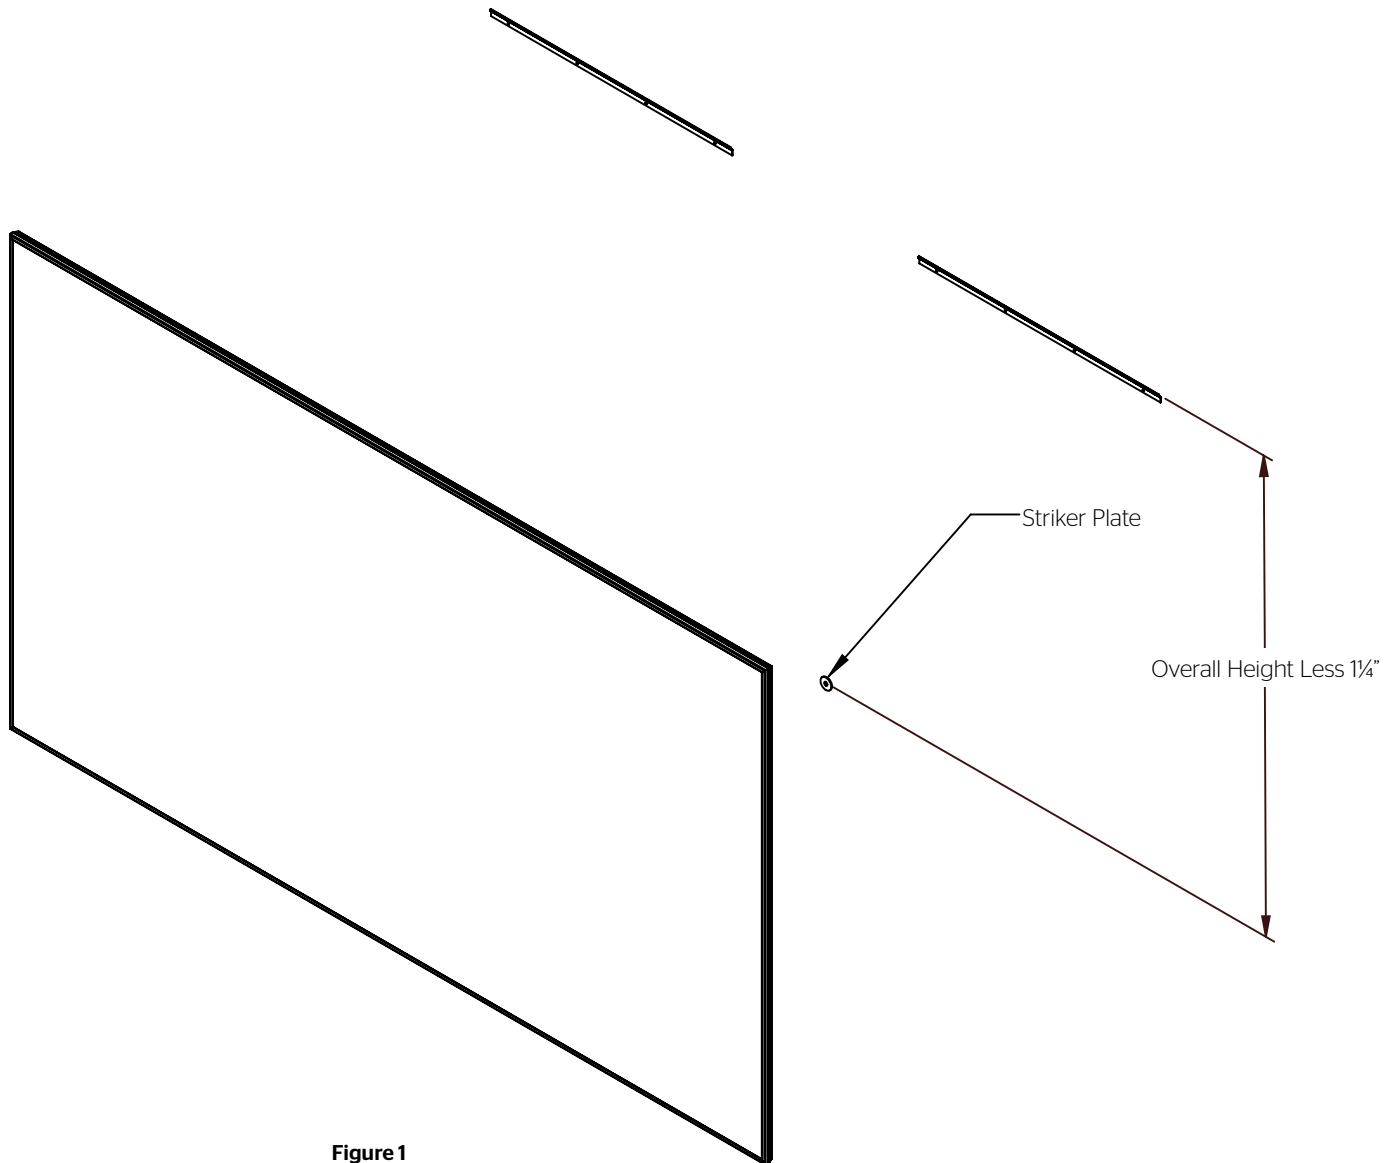

Figure 1
**NOTE:** The screen is shipped with two wall brackets. Screens in widths of 88¾" and below receive (2) 28" wall brackets. Screens above 88¾" in width receive (2) 44" wall brackets. Use appropriate mounting hardware for the wall type and to accommodate for the screen's hanging weight (Figure 1).
1. Secure the two wall brackets to wall studs at the desired height. The outside edge of each wall bracket must be no greater than 5" away from the left and right edges of the frame. You will need at least 2" clearance above the drilled holes to hang the screen (Figure 1).
2. To install the striker plate, take your screens overall height (including frame) and subtract 1¼". Using that dimension, measure down from the top edge of the wall brackets and mark the wall for a screw hole (Figure 1).